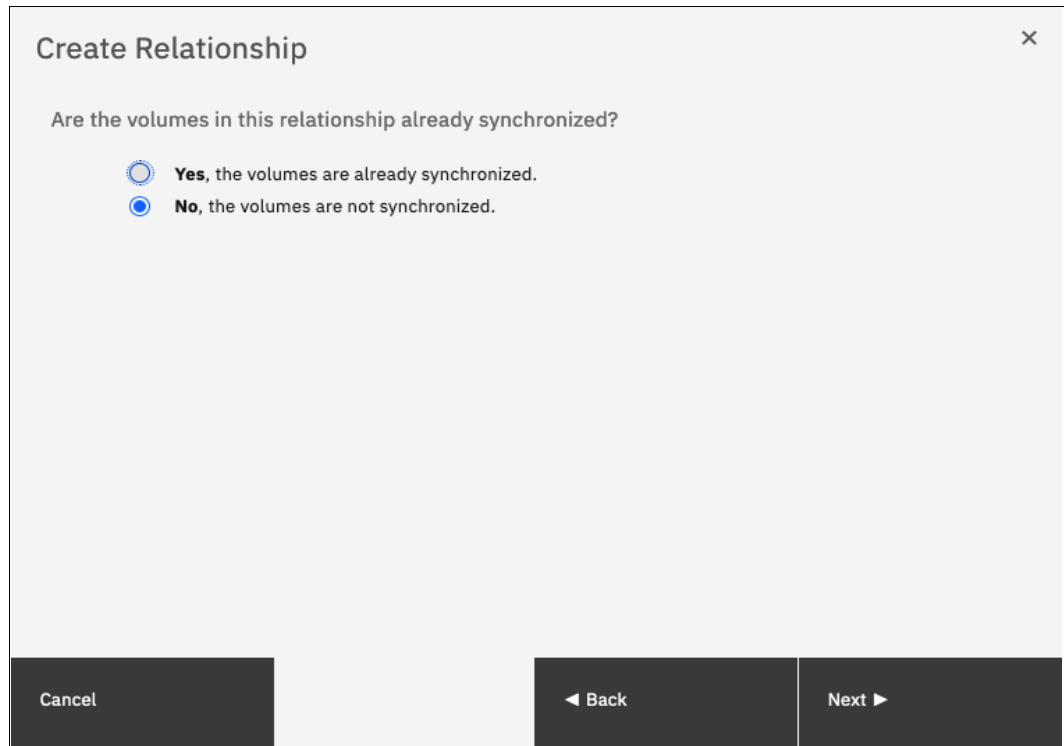

Figure 10-121 Selecting whether the volumes are synchronized
10. In the next window, select whether the volumes are synchronized so that the relationship is created, as shown in Figure 10-121. Click **Next**.